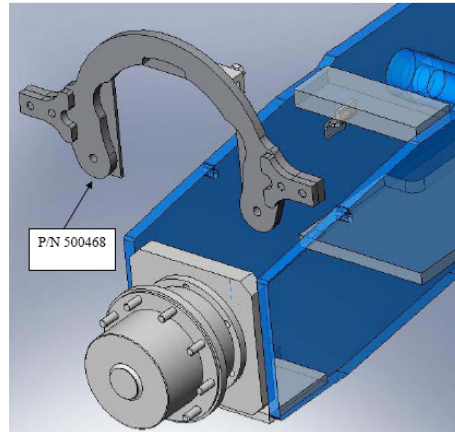

Fig. 7
- d. Install the Limiter Rear Upper Bracket by sliding it down onto the hub block. The rear angle bracket sets on top of the hub block. **Fig. 7**